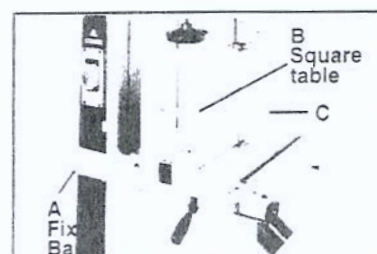

Fig. 7
- Setting the fixed base (A, Fig. 7) to the cast iron table with two hex head bolt m6x20, two spring washer m6.
- Setting the square tube (B, Fig. 7) to the table with 2 hex socket bolt m6x16.
- Setting the fence (A, Fig. 7) to the fence body, place the fence assembly on the fixed base, slide the fence on its guides until it is the required distance from the blade.